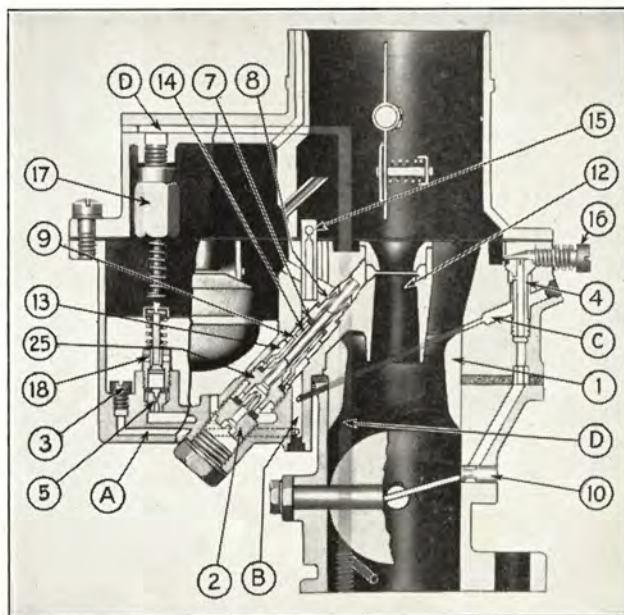

Figure 2
An Idling Jet (4) (see Figure 2) meters the fuel for idling while an Idling Adjusting Needle (16) controls the volume of air. The Idling Tube carries this mixture to the discharge opening at the edge of the throttle plate. Idling speed is regulated by the throttle stop screw.